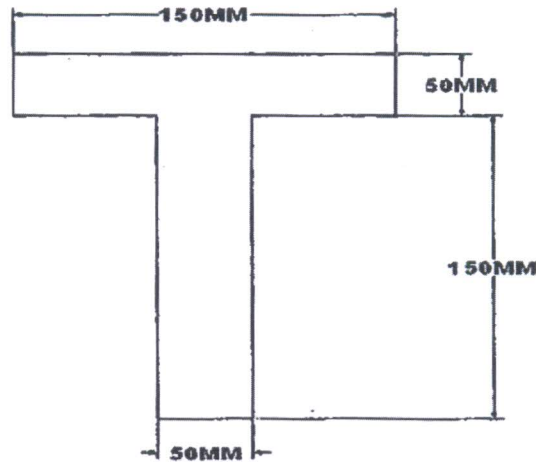

Fig. 7
- (b) A simply supported beam of span 6 m carries UDL of 80 kN/m over the entire span. Draw the shear stress distribution diagram at support indicating all important values. Fig. 7. [8]